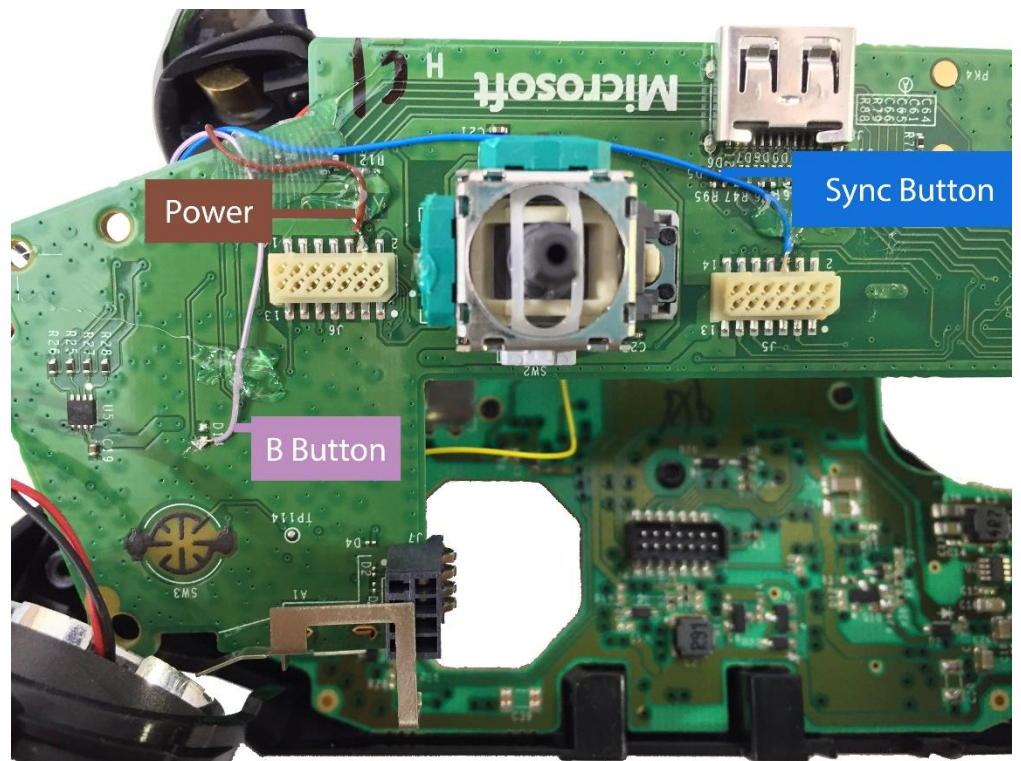

Figure 6. Brown Blue and Violet Wires
Step 1: Route and solder the **Brown** and **Blue** wires as shown in **Figure 6**. The connection points lie proximal to the other pins which have the danger of bridging when you solder. Ensure the pins are not bridged during soldering. If this occurs, remove it, perhaps using de-soldering wick.
Step 2: (Advanced Kit only; Stealth Kit has no **Violet** wire) Solder the **Violet** wire to the bottom solder joint in **Figure 6** (closer to the B button pad),